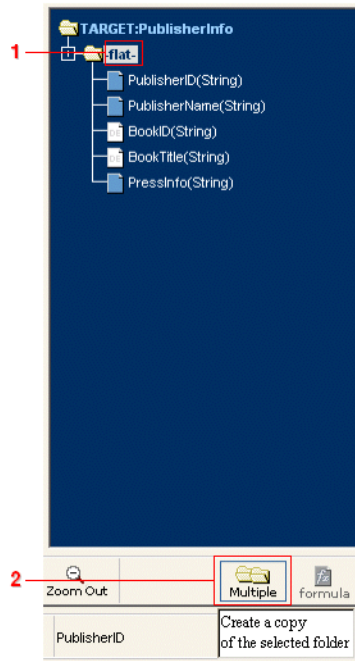

Figure 22-2. Select the main target folder and click the **Multiple** button to create an additional folder.
- 2 Click the **Multiple** button (see Figure 22-2 below).